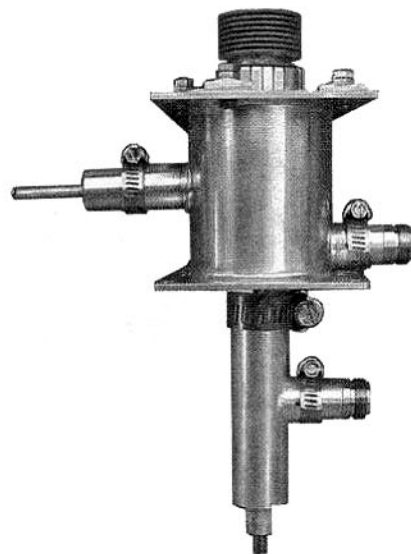
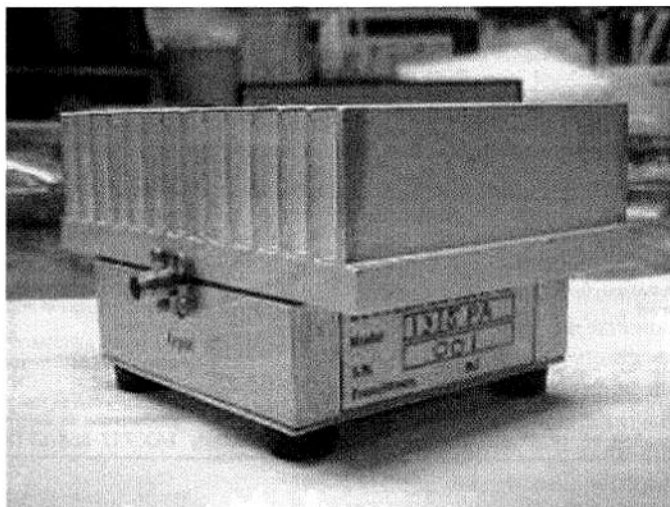

Figure 2. 13cm Amplifier using 7289 Planar Triode Tube.
Figure 3. 13cm 15 watt Amplifier from Down East Microwave.
brute-force approach, I build tube-type amplifiers for 13cm, using both the 7289 planar triode (see Figure 2) and a large Russian triode. Unfortunately, the finicky nature and high voltage requirements of vacuum tube amplifiers make them rather complicated to use. But if you want real power on this band, tubes are the only way to go. Since the projected link margins indicate that 5-10 watts to a small dish will be adequate, a better approach for our use is probably a 10 watt solid state amplifier, remote-mounted at the antenna in similar fashion to that described for L-band. Down East Microwave has recently introduced a 1-watt in, 15 watt out amp that appears well suited to this application (Figure 3). As with L-band, you will have to pay attention to matching the output power of your in-shack transverter less feedline loss to the input requirement of the amplifier.
Although this technique is electrically excellent, the appearance leaves something to be desired. A more attractive instrument can be made by putting the assembled board inside a Pomona box (6). If you choose to go this route, you will need to solder multiple feed-thru wires between the top surface and the bottom surface of the PC-board to provide the low-impedance connection between the top and bottom ground planes. The holes for these wires are shown as the rows of dots on 0.1" centers along the sides and elsewhere on the template, Figure 3. These wires are the first things that should be soldered to the board, leaving the rest of the components until later. Start by cutting some approximately 1/2" (1 cm) lengths of old resistor leads or bus bar wire. Put the board on a flat surface and lay a few of these